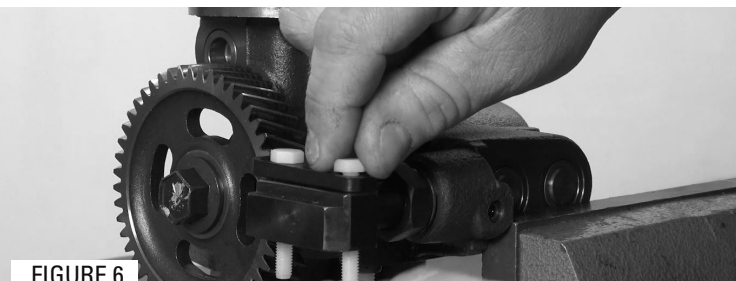

FIGURE 6
- 8** Install the supplied plastic bolts and wing nuts from kit to align and position the jam nut fitting. Tighten plastic bolts and wing nuts by hand. NOTE: This tool ensures the high-pressure oil branch tube adapter is installed at the correct depth to prevent high-pressure oil leaks.(Figure 6)